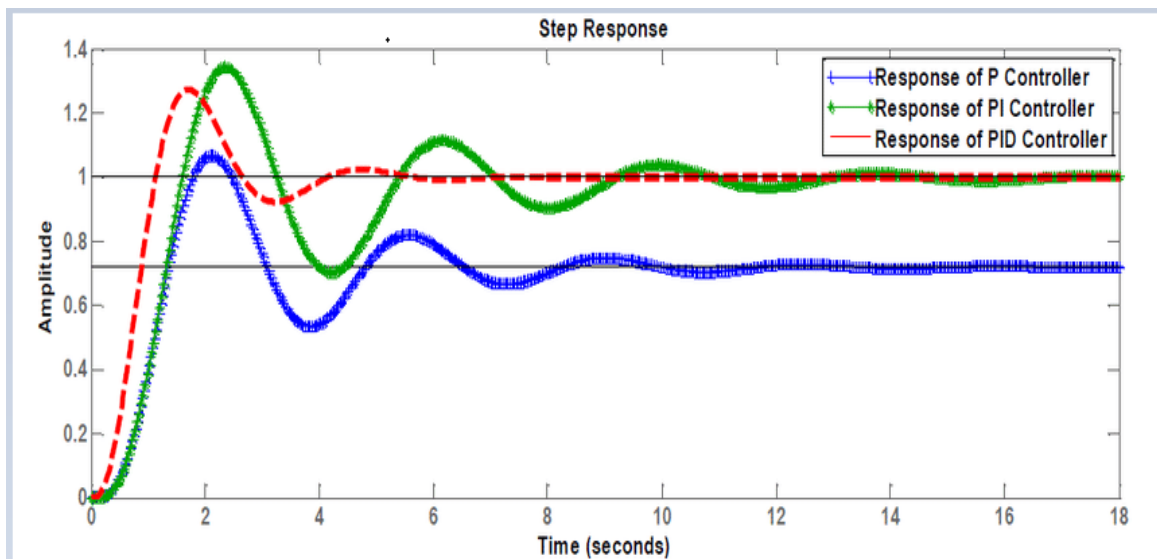

Figure 4: The Response of each term of the PID Controller on the system.
- F. **Output:** The PID controller output is calculated by simply adding the Proportional, the Integral and the Derivative. Depending on the gain setting of these three values, will determine how much effect they will have on the output. Figure 4. Illustrates the gains' contribution to the system's response.